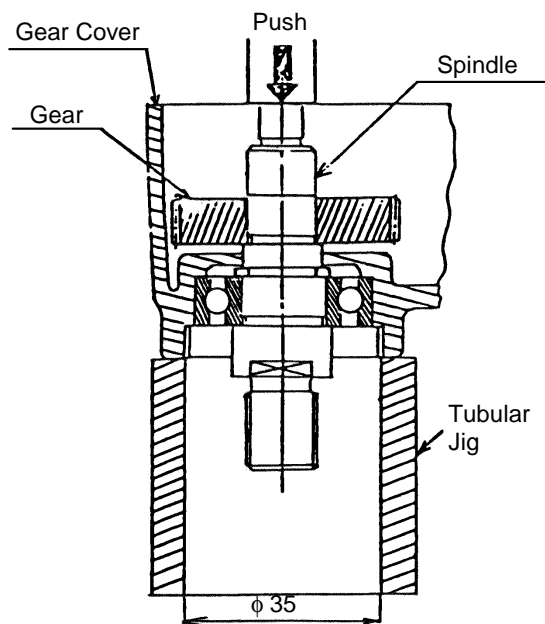

Fig. 5
- (1) Remove the Bearing Cap ③ which is mounted on the Gear Cover ⑨. In removal, ensure that the spanner used matches the dimensions of the Bearing Cap ③ (Hitachi's J-29 Spanner is recommended). Also, carefully note that the Bearing Cap is left-hand threaded.
- (2) Occasionally, the ball bearing fitted in the Inner Cover Ass'y ⑪ will adhere to the Spindle ④ during disassembly. In this case, remove the ball bearing from the Spindle.
- (3) As illustrated in Fig. 5, support the end surface of the Gear Cover ⑨ with a tubular jig, and push down on the end of the Spindle ④ with an arbor press or similar tool to remove the Spindle. At this time, the Gear ⑩ will be simultaneously removed from the Spindle.